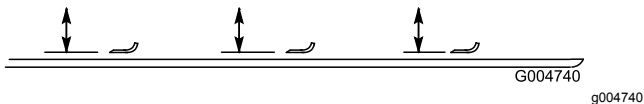

Figure 111
2. Rotate the blade until the ends face forward and backward (Figure 111). Measure from the inside of the cutting unit to the cutting edge at the front of the blade. Remember this dimension.